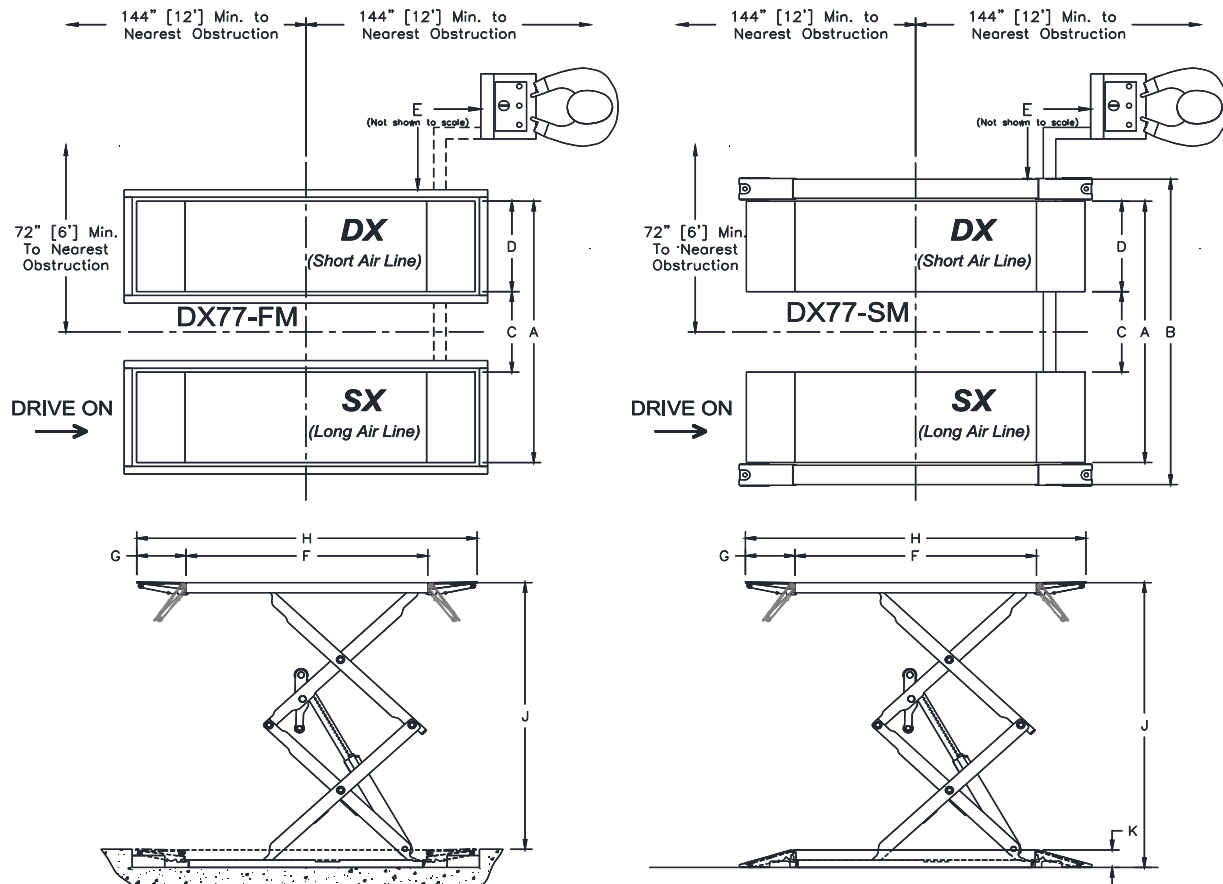

Fig. 1 - General Specifications
- 1) Layout the service bay according to the architect's plans or owners' instructions (**see Fig. 1**). **Failure to install in this orientation can result in personal and property damage.** Be certain that the proper conditions exist, see page 3.